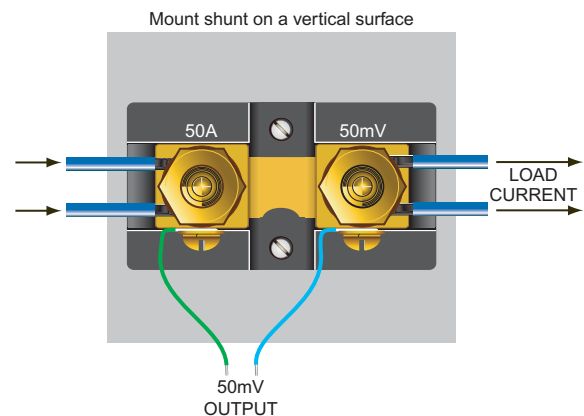

Figure 1. Typical installation
**2. Mounting Considerations:** All shunts should be mounted with their resistance blades in a vertical position to allow for natural convection cooling (see Figure 1). Forced-air cooling must be provided when vertical mounting is impractical, or in installations where the shunt is installed in a confined location. The shunt's manganin blades must never be allowed to exceed +125°C; doing so will cause permanent damage to the shunt.
Whenever practical, all shunts should be connected in the grounded side (normally the 'chassis') of the dc supply. However, these shunts must be connected in the grounded side of the circuit when the dc supply exceeds 750 volts (the rated limit for the shunt's phenolic insulating base). When more than one wire is to be connected to each end of a shunt, the wires must be evenly distributed between both terminals (see Figure 1).